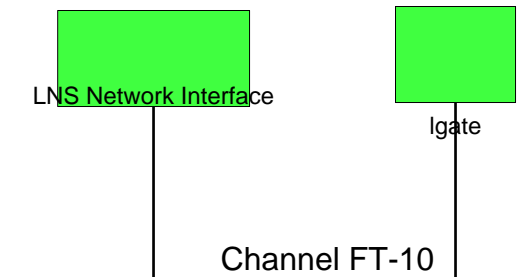

Figure 64: The L-Gate has been added to the drawing.
10. Finally, you should get the device added to your drawing as depicted in Figure 64.